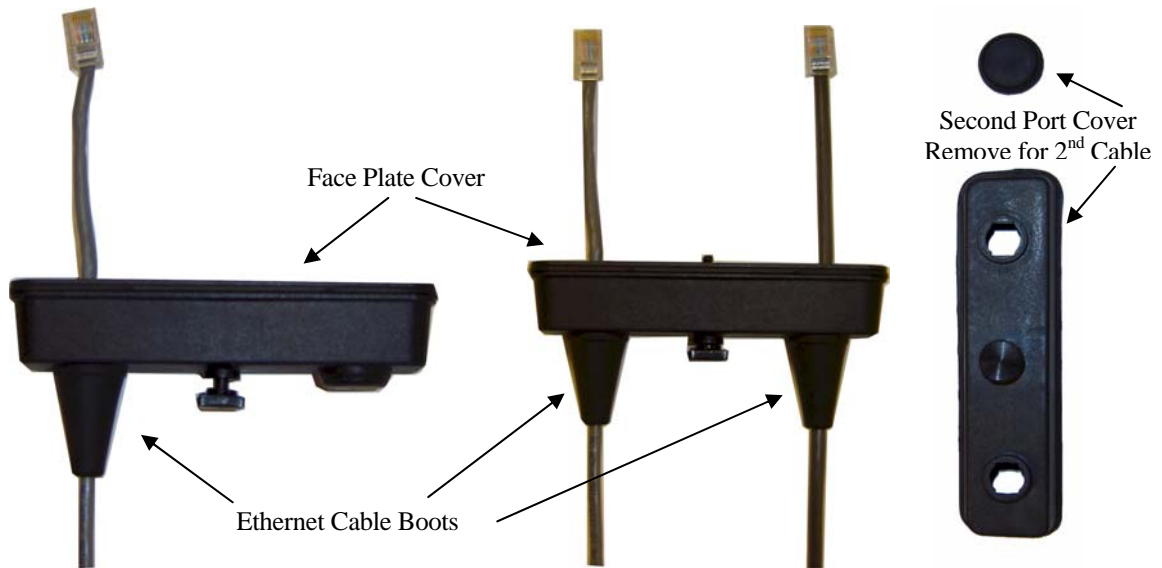

Figure 7: Ethernet Cable Routing
8. Feed the CAT-5e Ethernet connector(s) through the Face Plate Cover and secure the Ethernet Cable Boot to the cover. Reference Figure 7. *NOTE: The Ethernet cable boot must be installed before the RJ-45 end is installed. If using the ESTeem AA09.1 outdoor Ethernet cable, verify that the Ethernet cable boot end is routed toward the ESTeem 195E.*